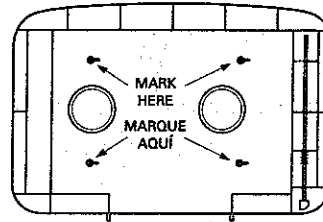
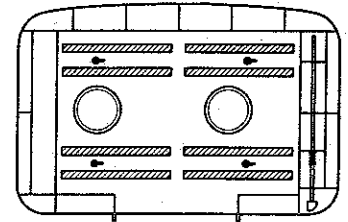

Figure 3
Figure 4
2. With the door of the dispenser open, mark the stall wall at the four (4) mounting slots as shown in Figure 3.
3. Drill four (4) 5/16" diameter holes at the marked locations. The depth should be 1-1/2 times the length of the ALLIGATOR® ANCHOR.
6. Mount the dispenser onto the four (4) screws and insure it fits properly. Adjust as required.
7. Remove the dispenser and position the double back tape on the back side of the dispenser as shown in Figure 4.
8. Remove the tape liner and reposition the dispenser on the four (4) screws. Push the dispenser until it seats firmly against the wall.
9. Drive the four (4) screws flush.